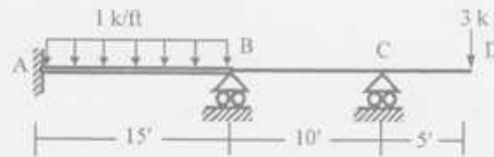

Fig. 2
2. Use Stiffness Method (neglecting axial deformations) to calculate the rotations at joint B and C of the beam shown in *Fig. 2* [Given, $EI_{AB} = 80 \times 10^3 \text{ k-ft}^2$, $EI_{BCD} = 40 \times 10^3 \text{ k-ft}^2$].